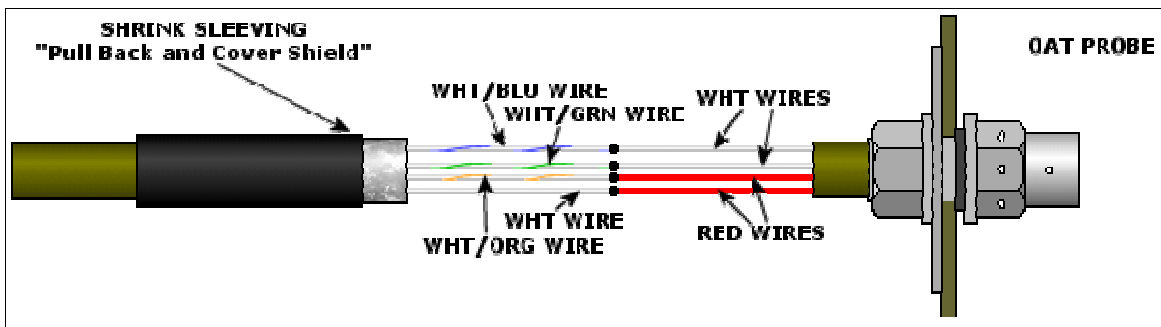

Figure C- 21: OAT Probe Wiring.
- 010 Trim the OAT "AAA00D24" cable from the processor to length. Following Figure C- 21, Splice to the transducer harnesses using the following wire splice configuration: